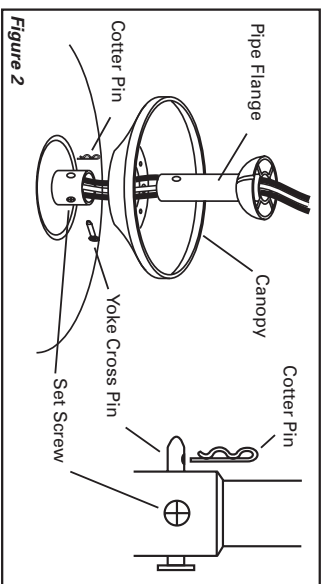

Figure 2
- Install motor leads through the canopy then through the hole in the center of the pipe flange. Insert downrod into downrod yoke. Make sure to align hole in downrod with hole in downrod yoke. Lift canopy and install yoke cross pin through yoke and downrod. Insert cotter pin into cross pin until it snaps into place. Using a phillips head screwdriver firmly tighten set screws in yoke. (Figure 2)
- Electrical Supply:** Connect the fan motor white wire to the supply white (Neutral) wire using a listed wire nut. Connect the fan motor black wire and blue wire to the supply black (hot) wire using a listed wire nut. Your fan is now wired to be turned on and off from the fan (pull chain) switch. (Figure 2) With wire nuts turned upward, place green and white connections to one side of box and blue and black connections towards the other side and push carefully up into outlet box.